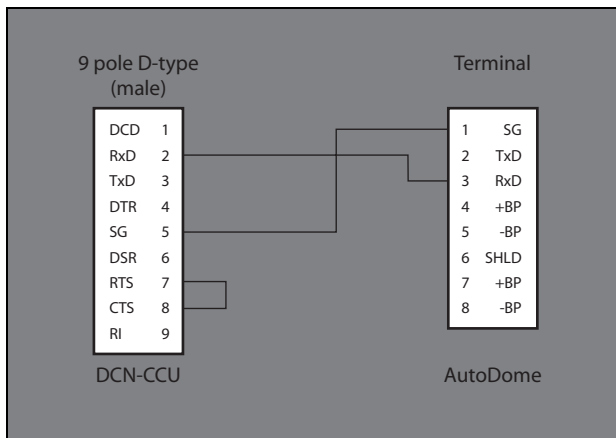

figure 8.18: DCN-CCU to AutoDome
- 12 Connect the AutoDome video camera to the central control unit (refer to figure 8.18).